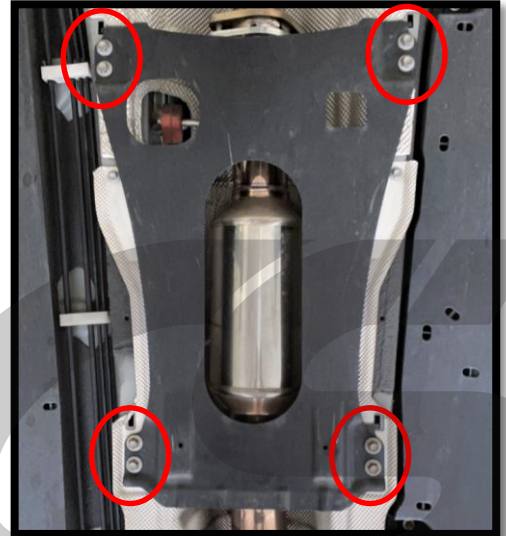

Figure 3d
- e) Remove the center chassis brace by removing the eight 12mm bolts circled in red in Figure 3d.